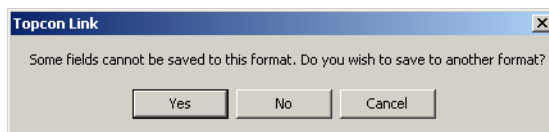

Figure 4-63. Save to Another Format?
*Topcon Link cannot save edited information if the file currently lacks the information fields. If Note or Code information is changed for GTS-210/310-10, GTS-210/310-12, FC-5 format files or user-defined format files without Note or Code columns, Topcon Link will display the following dialog box (Figure 4-63).*